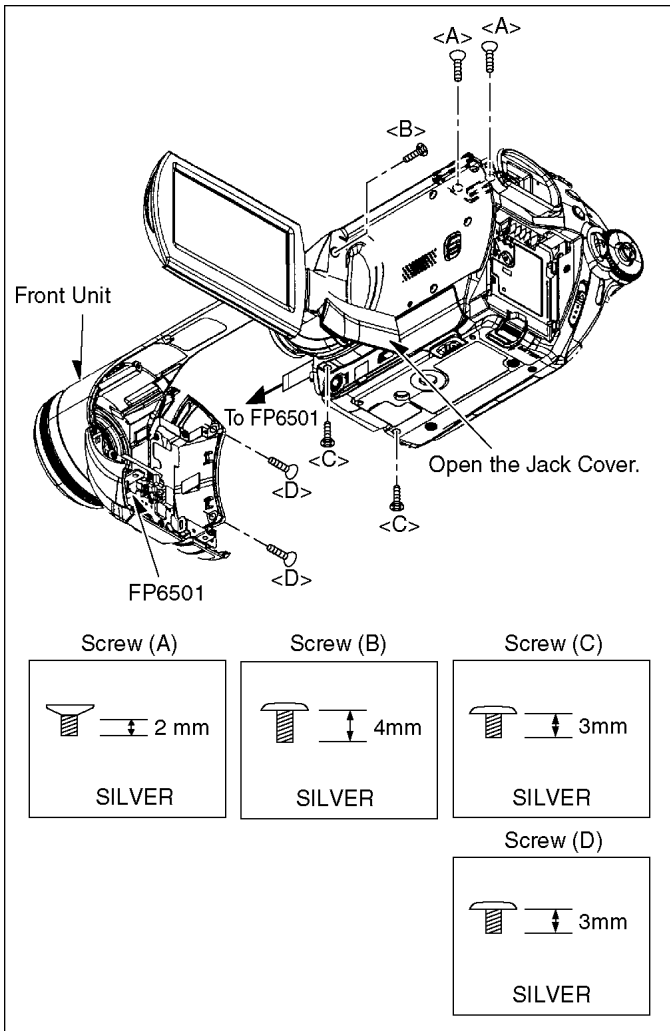

Fig. D2
| 1 | Front Unit | Fig. D2 | 2-Screws (A) 1-Screw (B) Open the Jack Cover. 2-Screws (C) 2-Screws (D) 1-Connector FP6501 Front Unit |